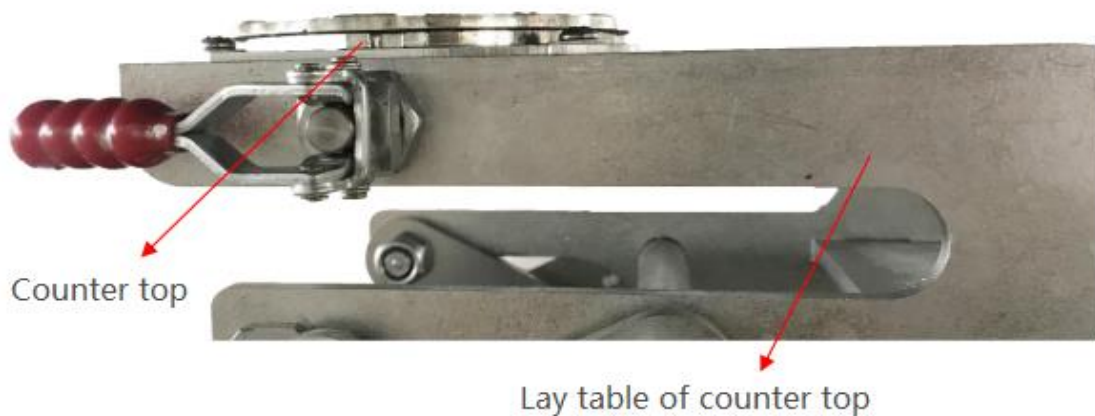

Figure 1
Before replacing the mold, please rotate the fast clip(12) 180° , as shown in Figure 1. Check the cross protruding part of the panel and the cross groove part at the bottom of the mold to insert it, and then rotate 180° to reset and lock it, as shown in Figure 2 to complete the mold replacement